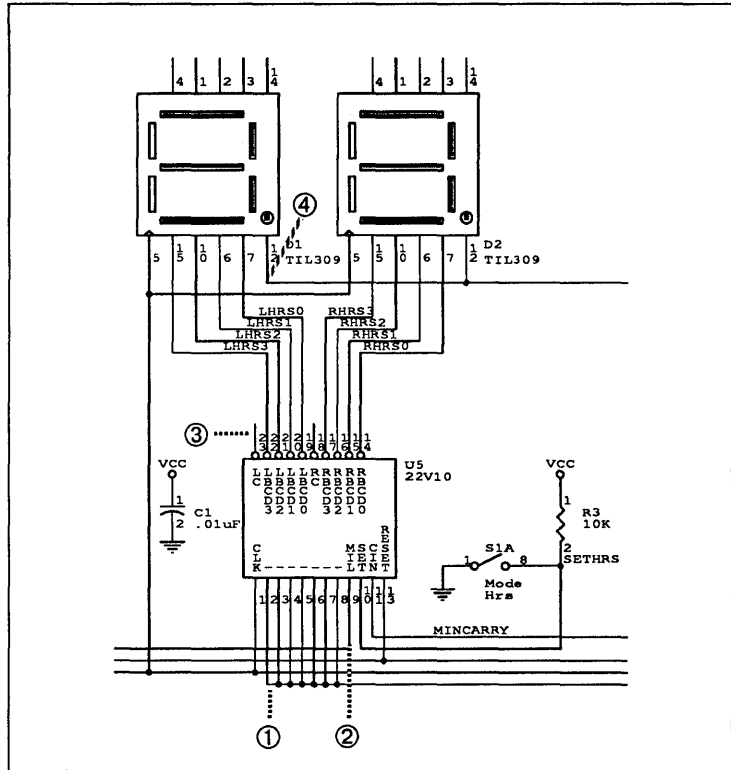

Figure 6-6. Hours area of the clock logic. The callouts refer to the step numbers in this section.
1. The bottom horizontal wire should end at the wire that extends from pin 2 of the 22V10 (figure 6-6).